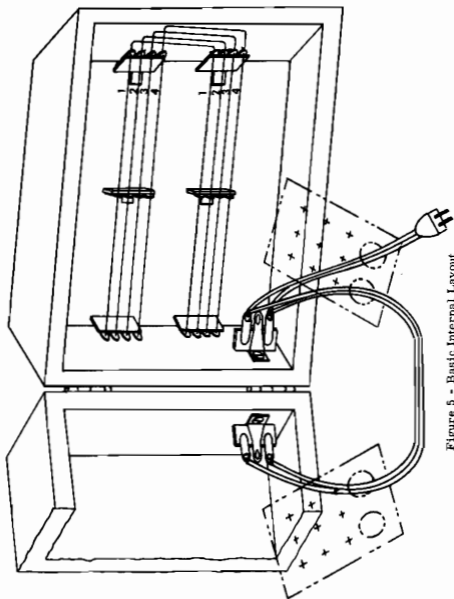

Figure 5 - Basic Internal Layout
During the following steps, refer to figure 5 for internal layout and wiring.
- ( ) ~~Cut a 5" length of the insulated wire provided and prepare it by stripping 1/4" of insulation from each end. Connect one end of this wire to Lug #1 of the upper buss rod assembly at one end. (See figure 5.)~~ Connect the remaining end of the wire to Lug #1 of the lower buss rod assembly. Solder both connections.
The dual section road style case uses two of the basic arrangements to form a unit which will fold in half and latch to itself to provide a portable, protective enclosure for the modules. In this configuration, the 4761 front panel in each module case needs to be mounted in the lower corners nearest to each other when the case is open. (See figure 5.) This will allow the easiest means of jumping power from case to case. Extra hardware will also need to be mounted if the case is to be closed, latched and carried.
- ( ) After determining the corner location of the 4761 front panel, mount the three-lug terminal strip on the case side nearest the panel location. (See figure 5.) Mount the terminal strip about half way between the front and rear of the module space, using a #4 X 3/8" screw.
- ( ) Arrange the two cabinets so they are facing each other with the case bottoms (the rubber feet are mounted on the bottom) facing the same direction. Locate the hinges on the case sides directly between the 4761 front panels when the case is opened. Mount the hinges about 1-1/2 inches in from the top and bottom of the cabinet using four #6 X 3/8" screws for each hinge. (See figure 5.)